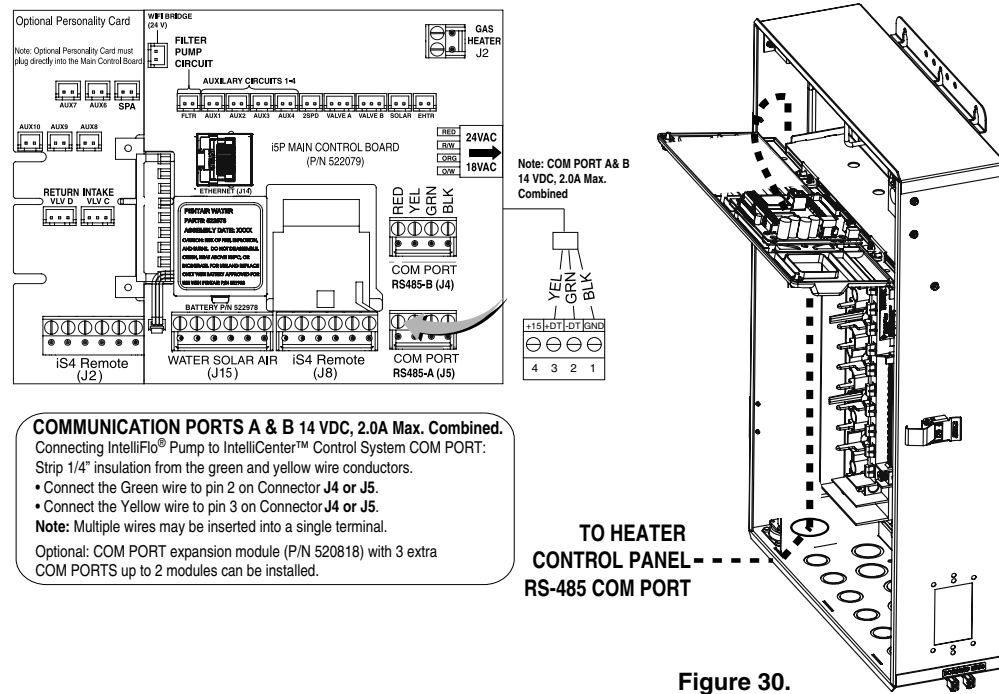

Figure 30.
4. Run the RS-485 cable from the heater's control board RS-485 COM port terminal connector to the Load Center or Power Center. See wiring connection Figure 30 on next page.